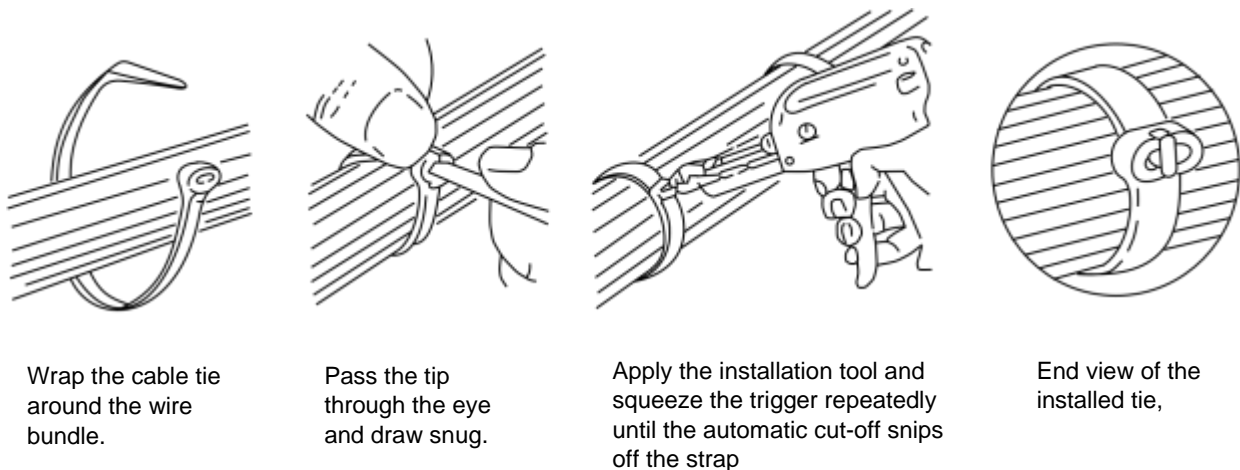

Figure 1. Manual Cable Tie Installation on a Wire Bundle
5.2.2 Refer to Figure 1 for the sequence for manual plastic cable tie installation on a wire bundle.